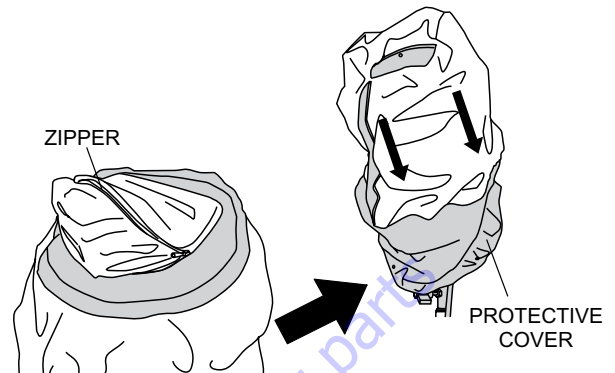

Figure 27. Unzipping the Protective Cover
3. Unzip the zipper on the protective cover (Figure 27) and roll down the protective cover over the balloon cloth.